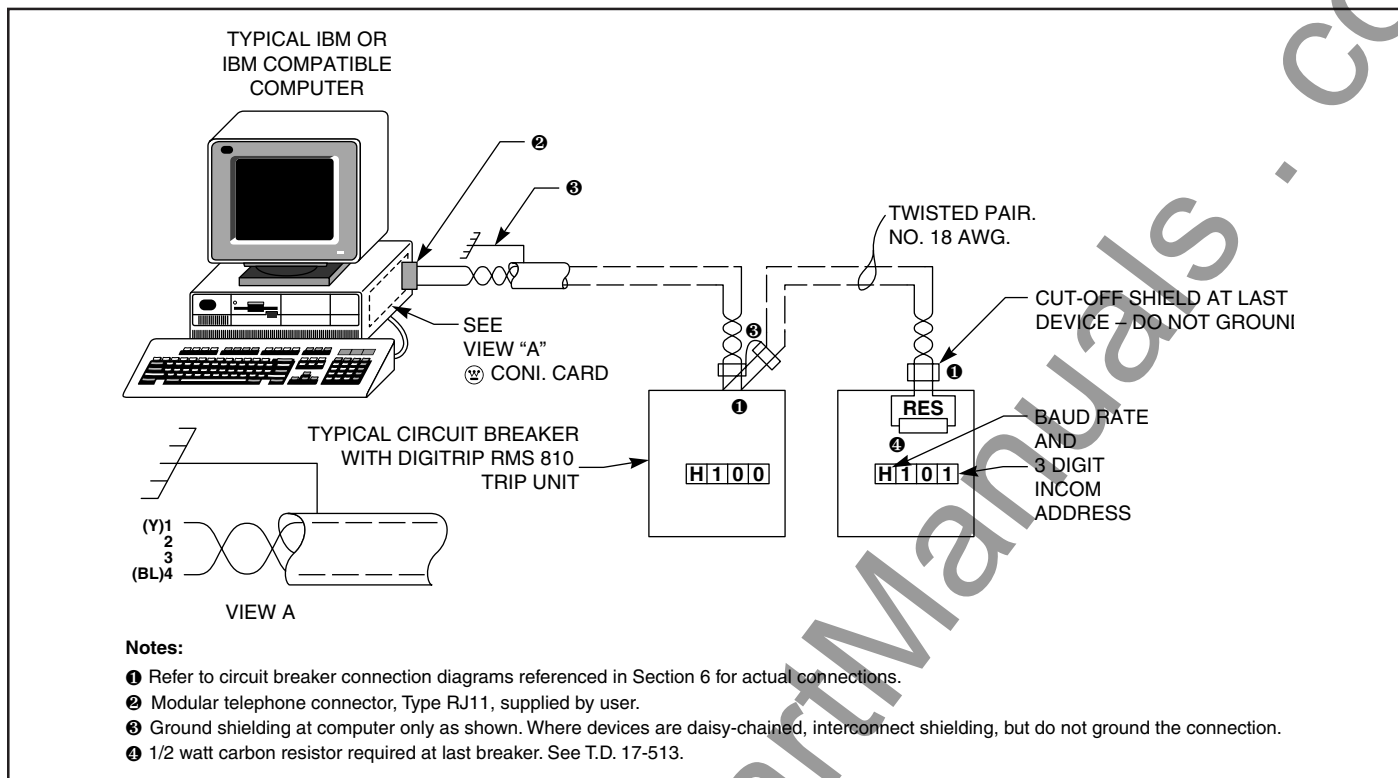

Fig. 10-5 Terminating Resistor Location
*Suggestion: Before you press and release the "Test" push button, set the "Test Amps" switch to 1 to minimize the effect of an unintended test, which can occur if your other finger would happen to come off the "Trip Reset" push button. For correct communications, be sure to use the Terminating Resistor at the end of the twisted pair (last element in the INCOMM chain). Figures 10-5, 10-6, and 10-7 show the location of the Terminating Resistor. Refer to T. D. 17-531 for the correct PowerNet wiring specification.*